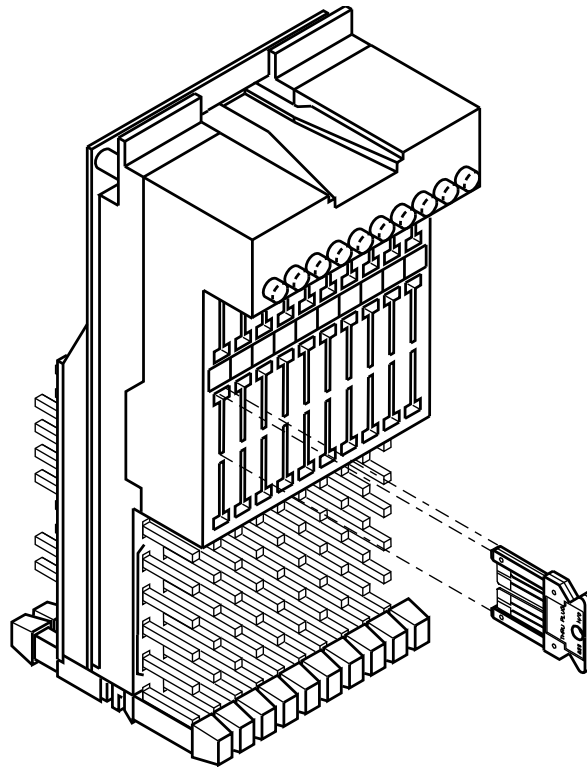

Figure 1. Cleaning 800-Type DSX-1/1C Connecting Block
1. Using a clean 800 N/O "thru" plug, insert and withdraw plug twice into defective unit. Wipe plug with a lint-free cloth (see Figure 1).